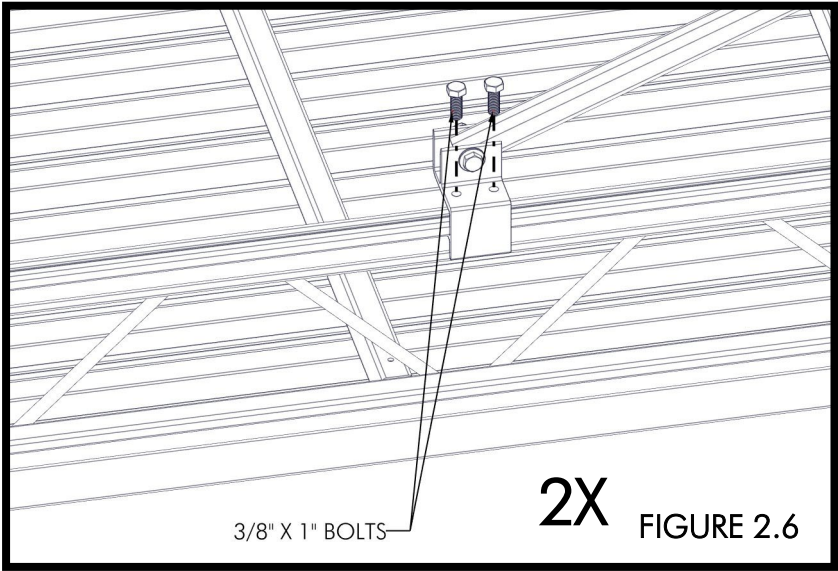
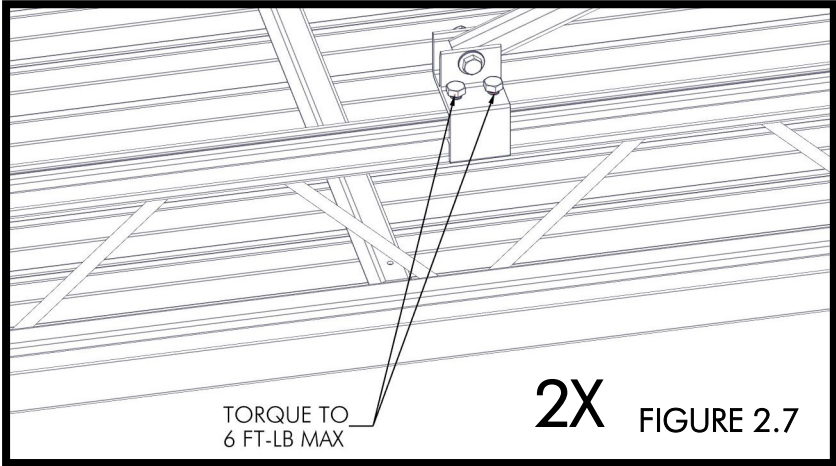

FIGURE 2.6
FIGURE 2.7
SHOWN IN FIGURE 2.6. A
INSERT (2) 3/8" X 1" BOLTS INTO THE BOTTOM OF THE BRACKET (FIGURE 2.6). TORQUE TO 6 FT-LBS MAXIMUM (FIGURE 2.7). TORQUE ALL 3/8" NUTS INSTALLED IN THIS STEP TO THE TORQUE SPECIFICATIONS SHOWN. OVERTIGHTENING THE FASTENERS WILL CRUSH THE BRACES (FIGURE 2.8).